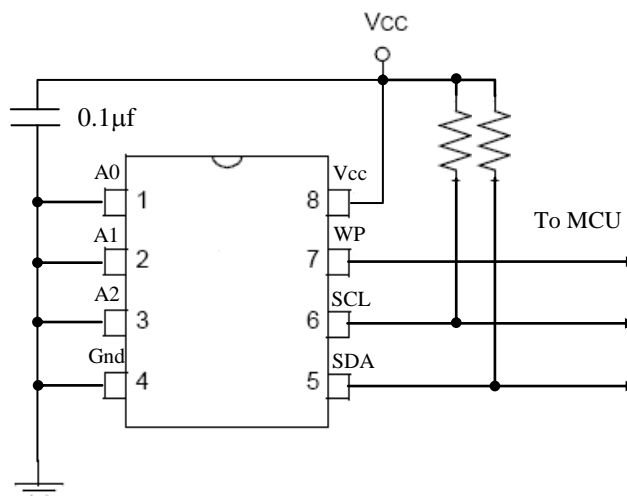

Figure 1: GIANTEC GT34C02 EEPROM recommended connections
In order to filter out small ripples on VCC, connect a decoupling capacitor (typically 0.1μf) between VCC and GND is recommended (Shown in figure 1). In addition, it is recommended to tie the pull-up resistor to the same VCC power source as EEPROM, if MCU is powered by a different VCC power source.
- 1) If there is only one EEPROM on I²C bus, the recommended connection is shown in figure 1. If WP needs not to be controlled by MCU, the WP pin can be tied to GND (hardware protection disabled) or VCC (hardware protection enabled).